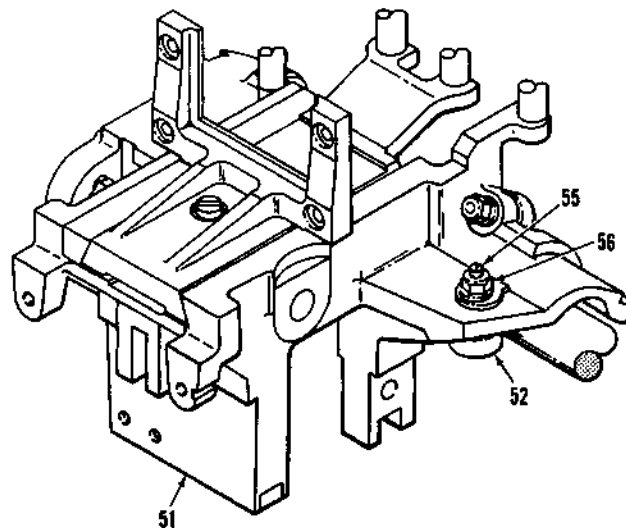

Figure 5-1. CARRIAGE MOVEMENT ADJUSTMENTS
B. CARRIAGE MOVEMENT AND RETAINERS (AA-100) (FIG. 5-1 AND FIG. 8-1)
9. Loosen lock-nuts (BA-56) on left and right eccentric axles (BA-55). (See Figure 5-1)